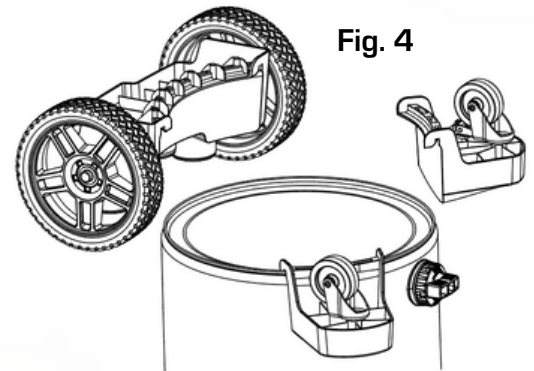

Fig. 4
4. Push the wheel holder into the tank until you hear a click. (Fig. 4) Important: be sure to center the wheel holder on the back of the unit. (Fig. 4 & 5)
5. Insert plastic caster feet into the bottom of the tank making sure they are evenly spaced from the center of the tank drain port. (Fig. 4) When inserting the caster feet, push firmly until they are flush with bottom of the tank.